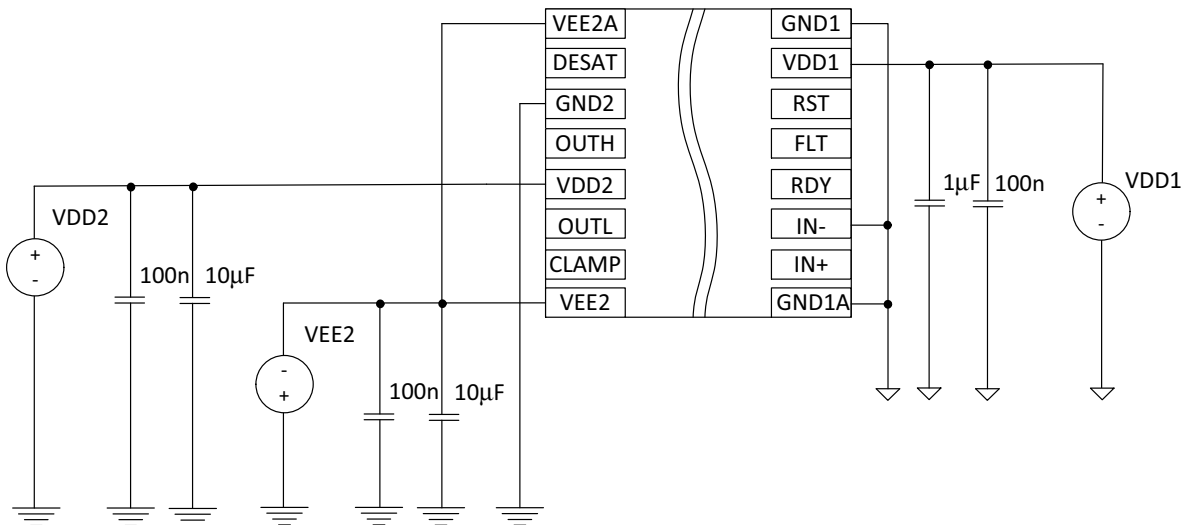

Figure 11. Bipolar Power Supply
- In bipolar power supply the driver is typically supplied with a positive voltage of 15 V at VDD2 and negative voltage -5 V at VEE2 (Figure 11). Negative power supply prevents a dynamic turn on throughout the internal IGBT input capacitance.